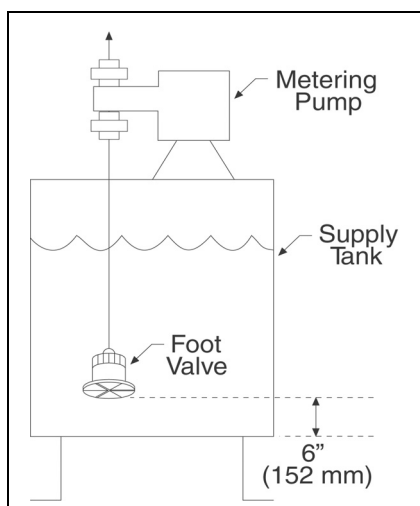

Figure 5. Suction Lift Installation
- Series G Model G pumps are designed to operate with process liquid supplied at or above atmospheric pressure. Although these pumps can move liquids supplied at less than atmospheric pressure, in these negative pressure applications it is important that all connections be absolutely drip free and vacuum tight, and that a foot valve be installed at the bottom of the suction line (see Figure 5).